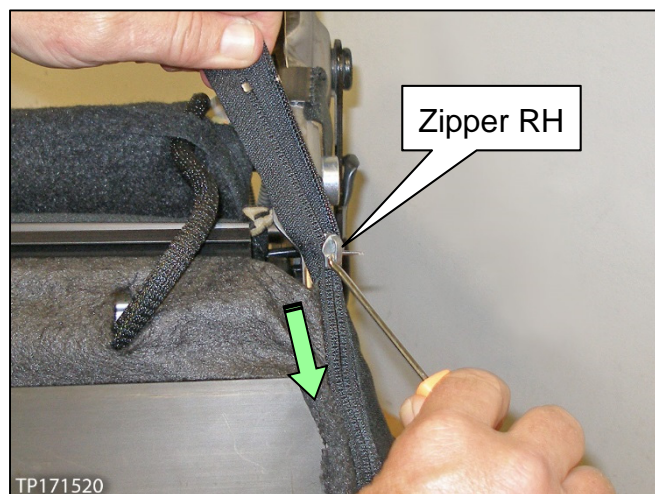

Figure 19
- The zipper RH is shown in Figure 19. The zipper LH is not shown, but is similar.